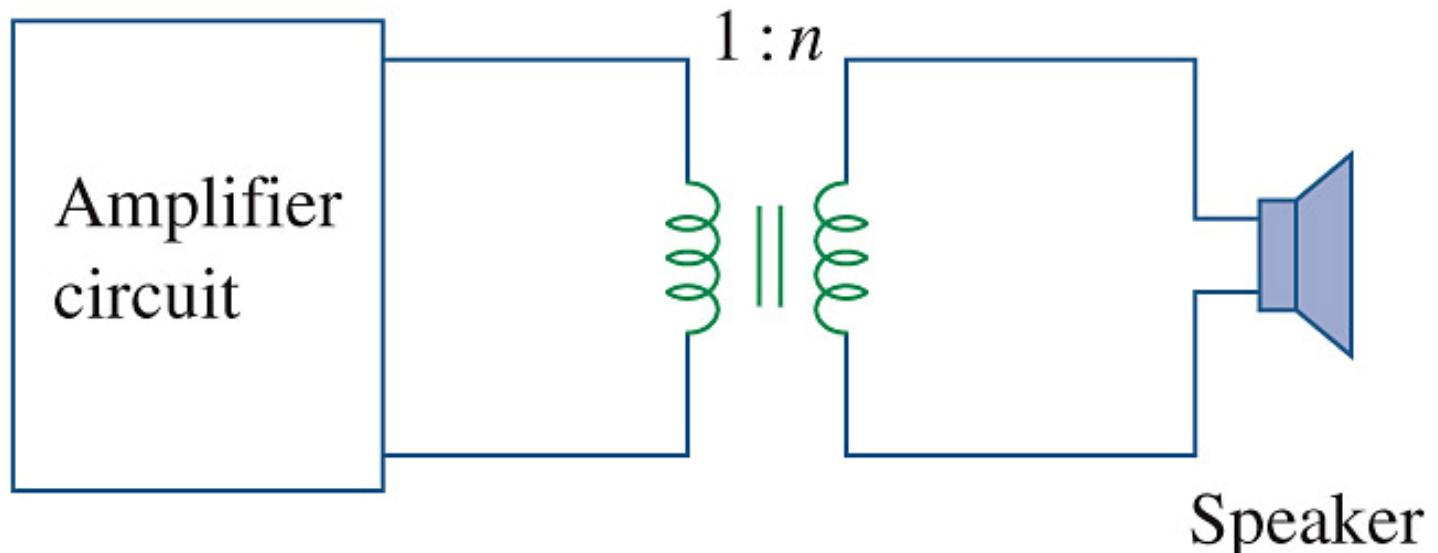

Figure 13.65 Using an ideal transformer to match
**Example 13.16** Consider Fig. 13.65. The Thevenin impedance of the amplifier is  $192 \Omega$ , and the impedance of the speaker is  $12 \Omega$ . Determine the required turns ratio.